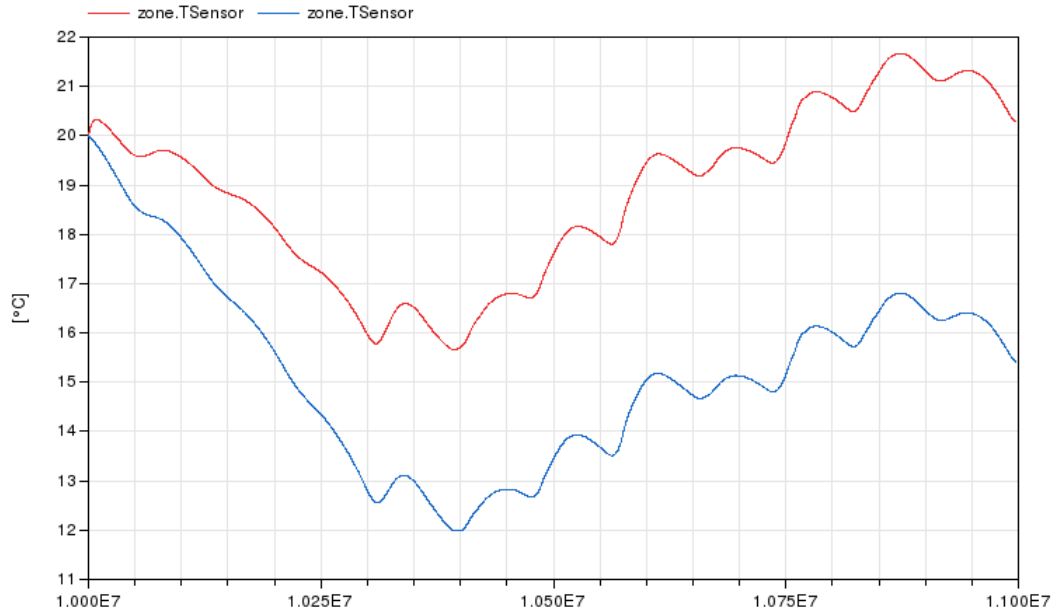

Figure 3: Zone temperature with (red) and without (blue) occupant and lighting.
**Reference result** The result with and without the occupant and lighting is plotted in Figure 3. If you observe no difference between both results, it is likely that you forgot to set the number of occupants, which is an option of `IDEAS.Buildings.Components.Occupants.Fixed` with a default value of 0.